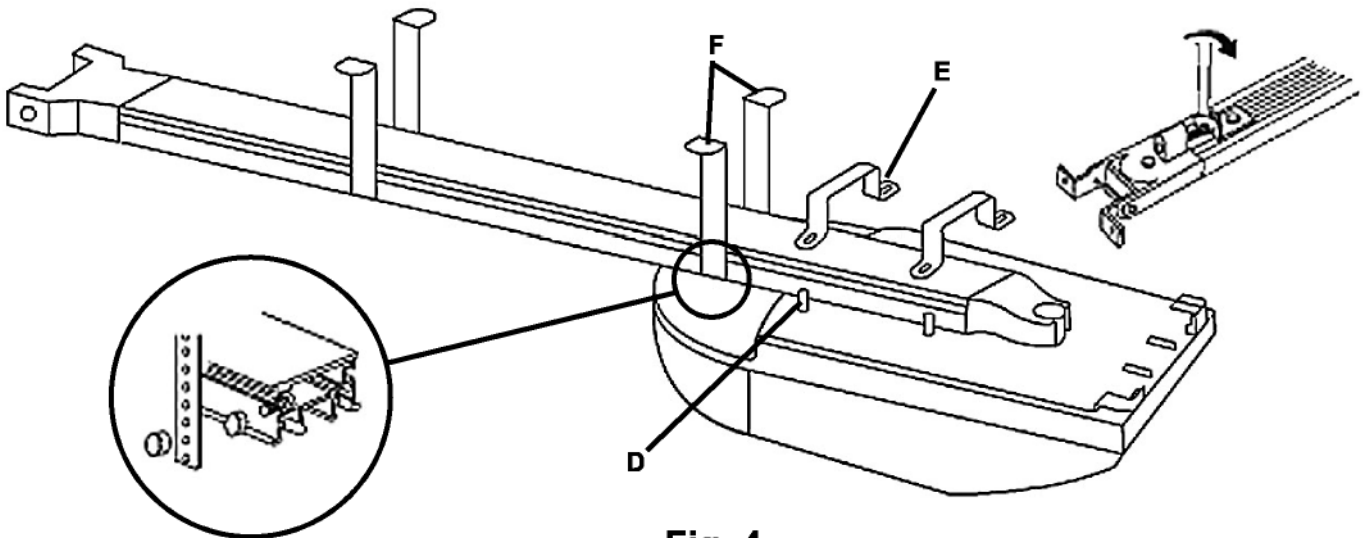

Fig. 4
Before attaching the motor brackets (E) (FIG 4) screw an inverted nut (6mm) (D) on each stud then position the brackets (E) on the studs and secure them in-place using a second 6mm-nut and then lock the brackets to the rail by tightening the inverted lock nuts (D).